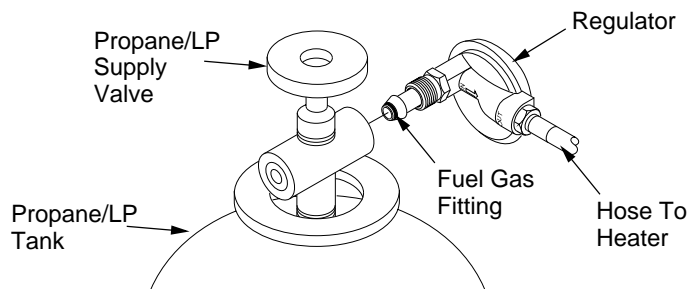

Figure 10 - Regulator Position
2. Connect fuel gas fitting on hose/regulator assembly to propane/LP tank(s). Turn fuel gas fitting counterclockwise into threads on tank. Tighten firmly using a wrench. **IMPORTANT:** Position regulator so that hose leaving the regulator is in a horizontal position (see Figure 10). This places the regulator vent in the proper position to protect it from the weather.